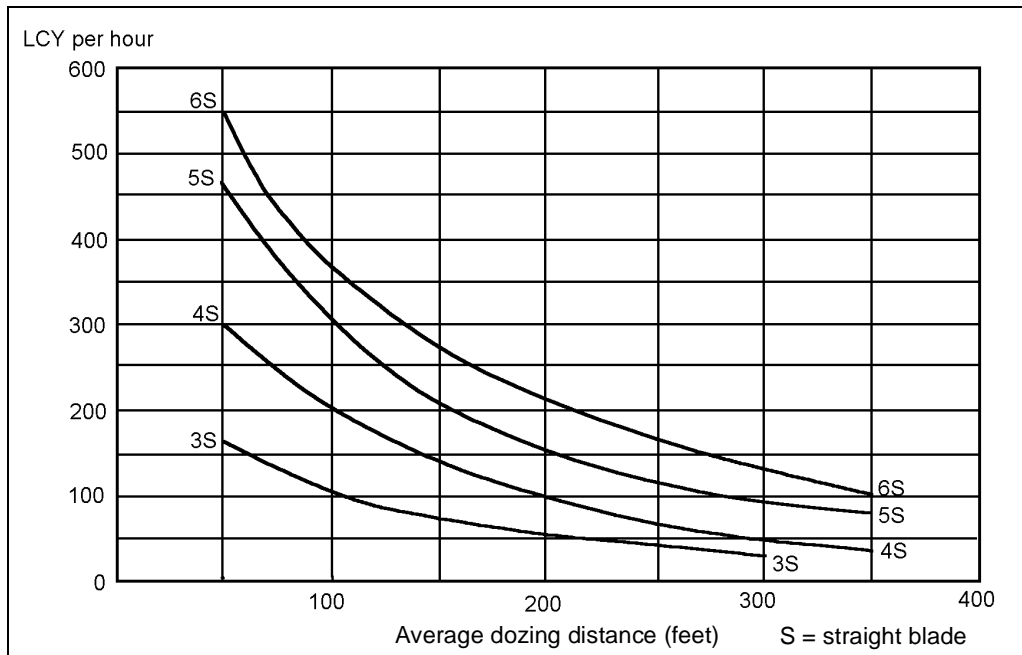

Figure 2-13. Estimated Maximum Production for D3 Through D6 Tractors With Straight Blades
Step 1. Determine the maximum production. Determine the estimated maximum production from either *Figure 2-13* or *2-14*, based on the type of dozer being used. Find the dozing distance on the bottom horizontal scale in the proper figure. Read up vertically until intersecting the production curve for the dozer being considered then read the vertical scale on the left to determine the maximum production in LCY per hour.
- Use *Figure 2-13* to determine the estimated maximum production for D3 through D6 tractors with straight blades. The DEUCE has the same production capability as the D5.